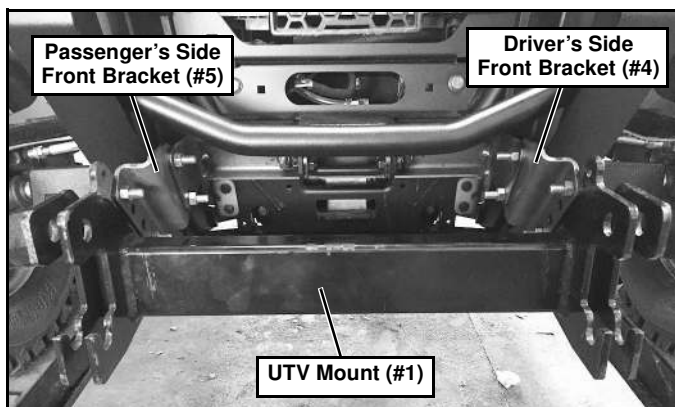

Figure 8
14. Position the UTV Mount (#1) on the machine. The UTV Mount (#1) goes to the outside of the Driver and Passenger Side Top Brackets (#4 and #5). (See Figure 8.)